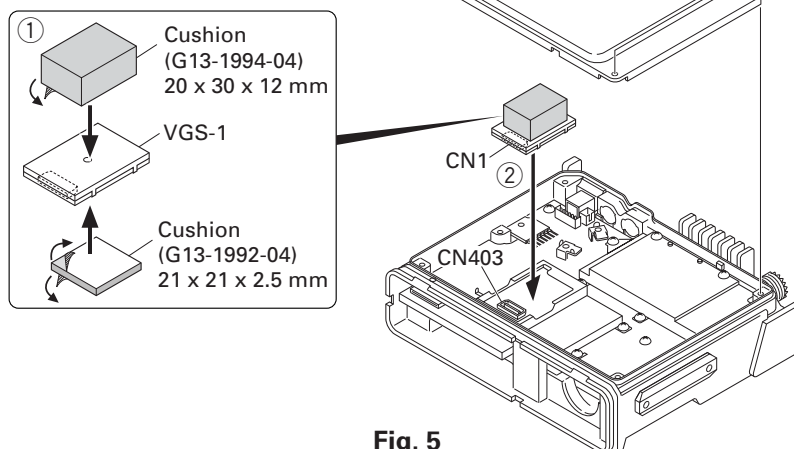

Fig. 5
2. Attach two cushions to VGS-1 as shown in Figure 5. (①)